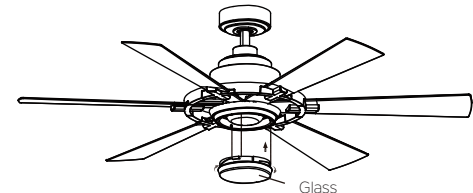

Fig. 23
**Step 4.** Secure the glass to switch housing by twisting in a clockwise direction, twist the glass gradually until it snaps on to the switch housing. Do not over-tighten. (Fig. 23)